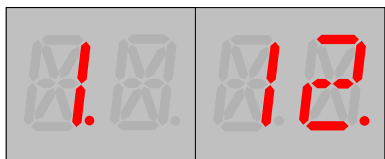

Figure 7d: SV with new stored value. Selecting this unstored value will store it, and a decimal point appears to its right indicating it is the stored value.
5. Pressing the SELECT pushbutton will store the displayed value for this SV. **A decimal point appears to the right of the value to indicate it is the new stored value.** See **Figure 7d**.